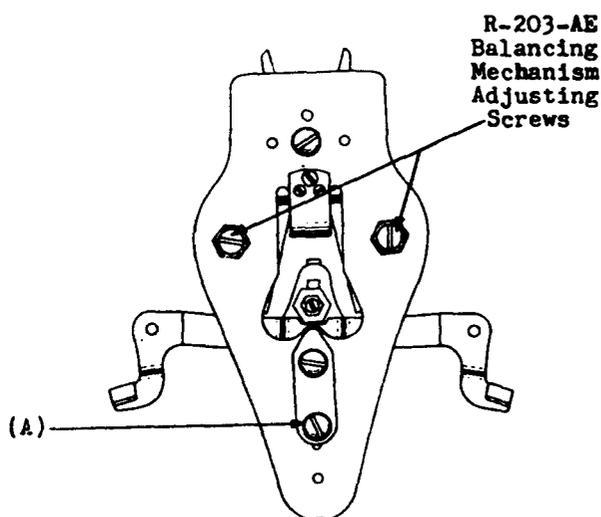
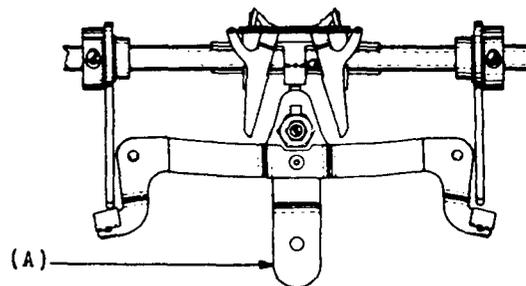

Fig. 11
Fig. 12
Remove balancing mechanism as described in paragraph 3.05. Remove screw (A) (Fig. 11) using the 3-1/2-inch cabinet screwdriver and remove detail (A) (Fig. 12). Remove the clutch arm. Remount the new clutch arm. Remount detail (A) and tighten screw (A). Remount the balancing mechanism as described in paragraph 3.06.